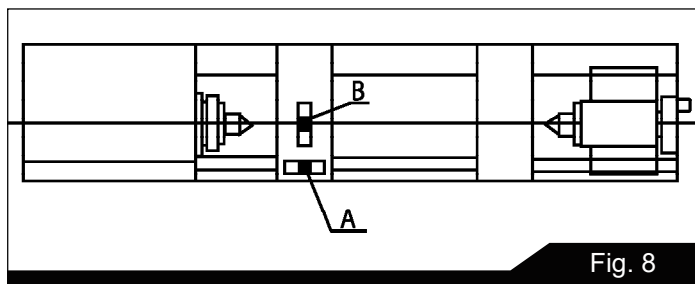

Fig. 8
10. Deviation over bed length (see Figure 8):